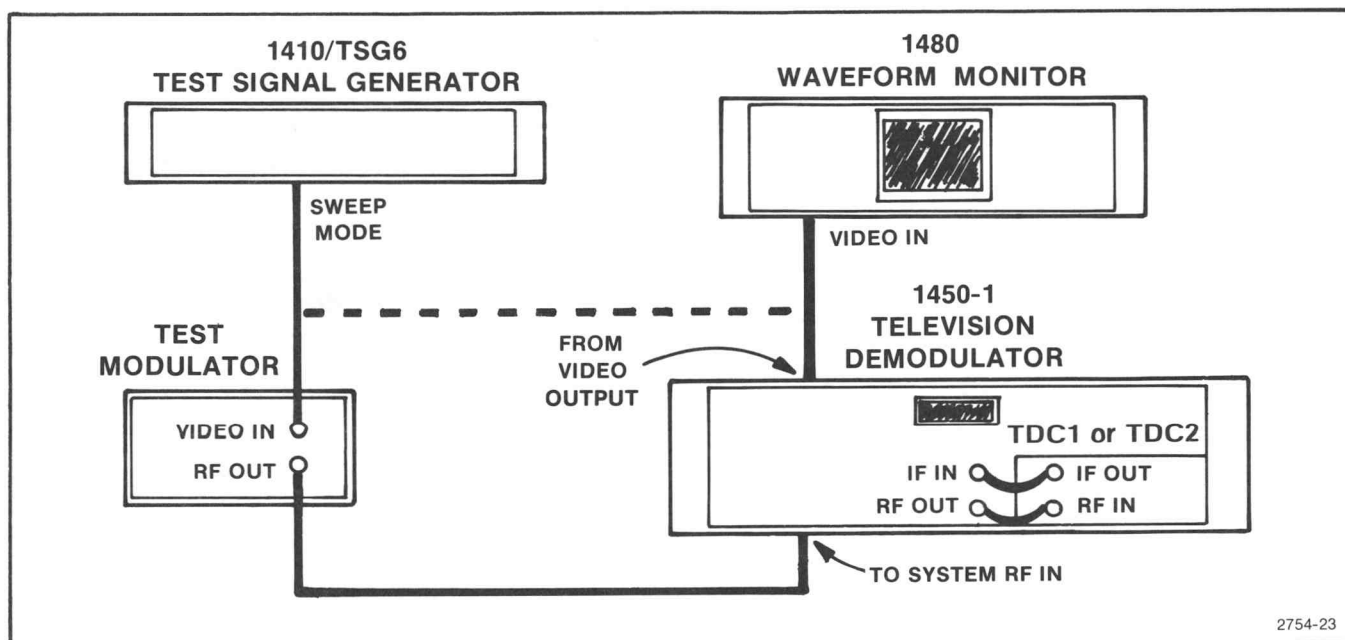

Fig. 4-12. Test Setup for Measuring Variation in Frequency Response.
c. Connect the test equipment as shown in Fig. 4-12. Use the Vertical Position control on the 1480 to bring the top of the display onto the viewing area.